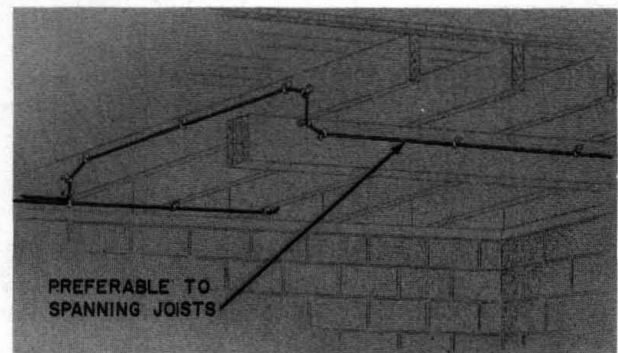

Fig. 8—Spanning Joist
- (g) If necessary to span joists, run wiring not more than 8 inches from wall (see Fig. 8).